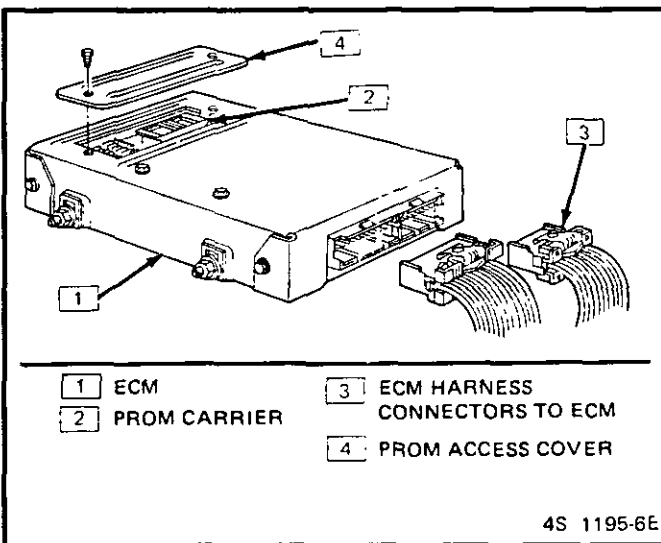

Figure C1-8 PROM Access Cover
4. ECM access cover (see Figure C1-8).